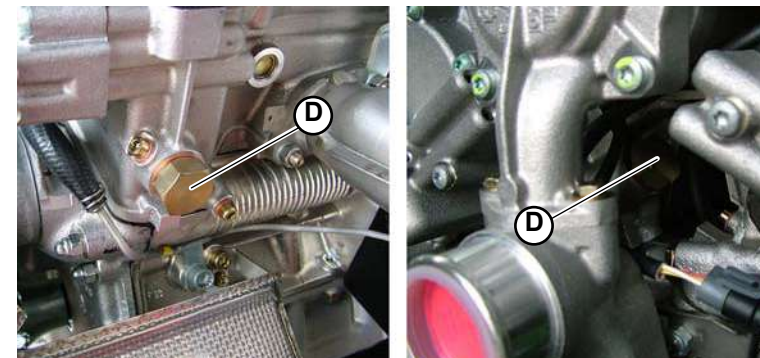

Fig.7
5. Remove the upper timing chain hydraulic tightener (**D-Fig.7**).